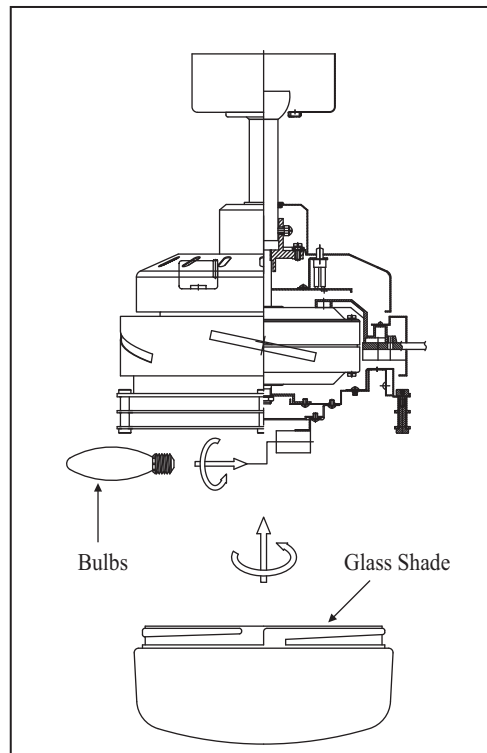

Figure 19
4. Install 2 x 60W candelabra bulbs (included). (Fig. 19)
5. Raise glass shade up against the light kit and secure it to fan by turning glass clockwise until snug. DO NOT OVERTIGHTEN. (Fig. 19)